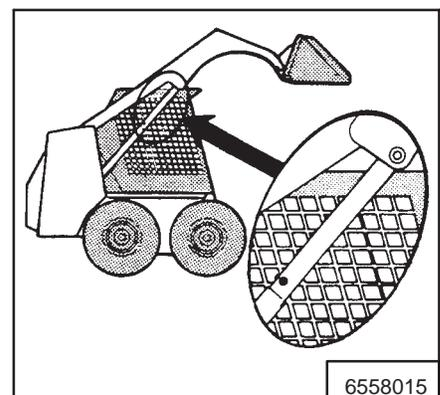

Fig. 1-49 Lift Arm Stop
- Have the second person install the lift arm stop over the rod of one of the lift cylinders (Fig. 1-49).